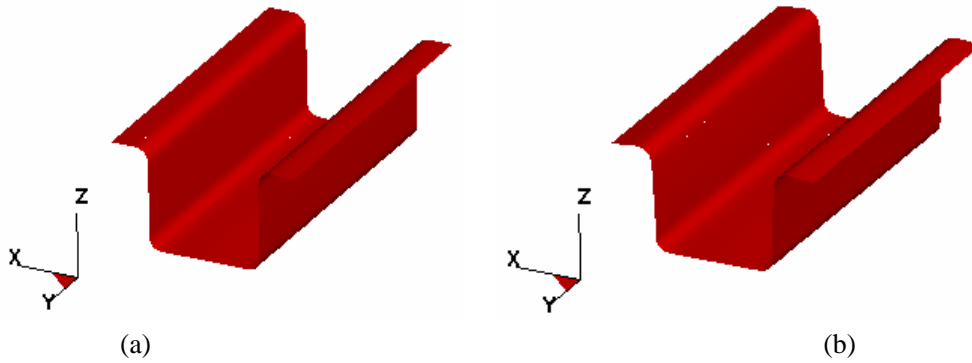

Figure 6.18 Springback results (a) before (b) after
1. Observe the springback change in the post process. There only are two frames in the file of d3plot. Figure 6.18 shows the blank shape before springback and after springback.